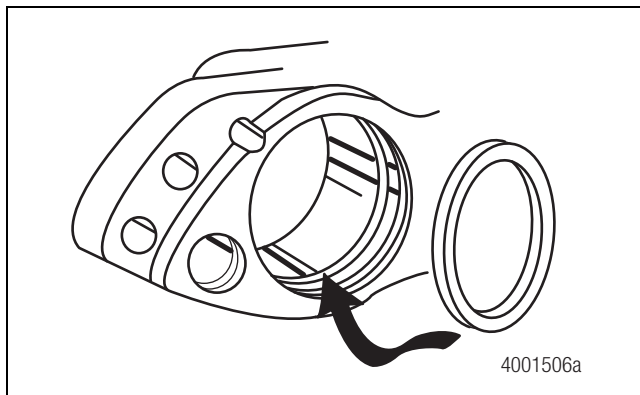

Figure 5.1
2. Install a new piston seal into the caliper body groove. Figure 5.1.